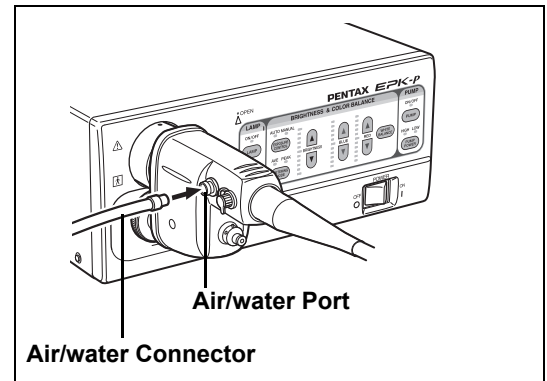

Figure 2.5
- 5** Insert the air/water connector into the air/water port of the PVE connector. (Refer to Figure 2.5)